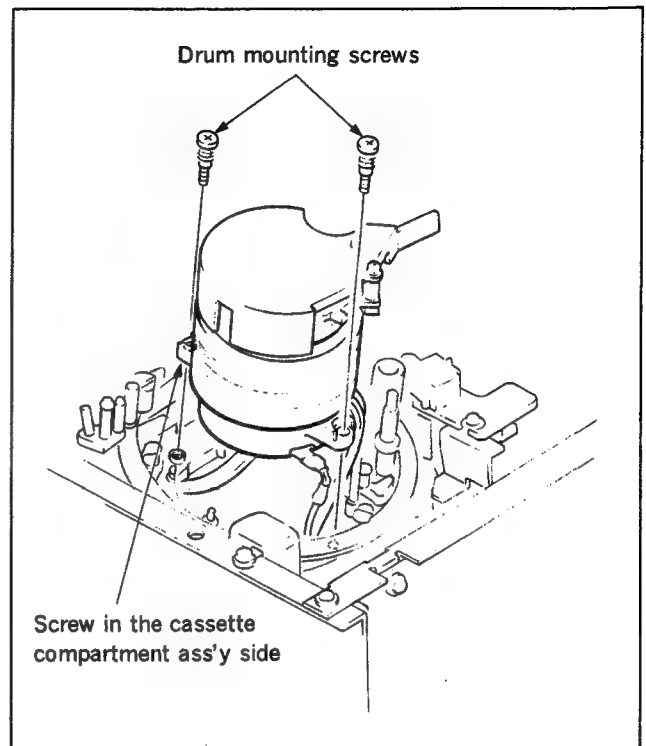

Fig. 4-3-2 Drum ass'y removal
5. Drum ass'y removal (Fig. 4-3-2)